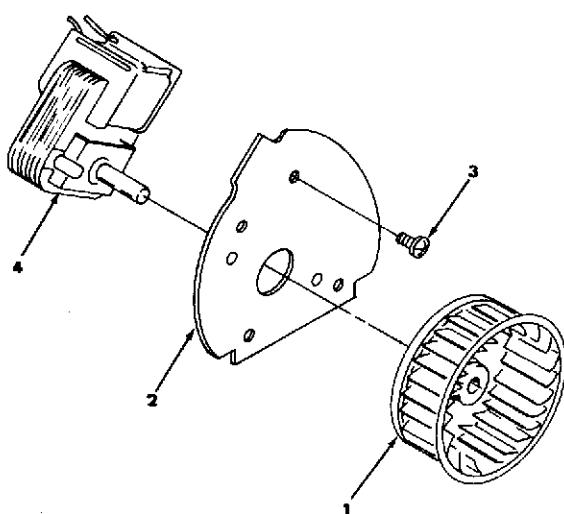
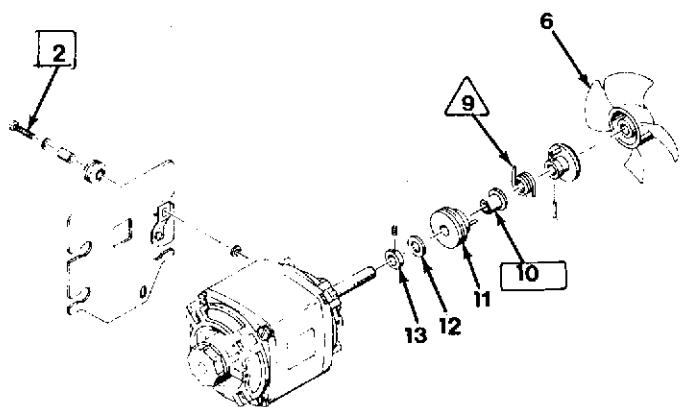

Figure 3-17. MOTOR AND PLATE ASSEMBLY
Figure 3-18. DRIVE UNIT ASSEMBLY
5. Motor and Plate Assembly (Fig.3-17)
- Apply Glyptal 7526 to threads and heads of screws (3).
- With motor shaft play taken-up toward motor, the distance between the wheel (1) and plate (2) must be within .080 to .100. The wheel must also clear screw heads while rotating.
- Lubricate interface of clutch (9) and drum assembly (7) with Teresstic N-75 oil.
- Assemble washer (12) as required, to provide .003 to .008 end play between pulley (8), washer (11) and ring (10).
6. Drive Unit Assembly (Fig.3-18)
- Lubricate inside diameter of spring (9) with Vischem No. 352 grease.
- Lubricate inside diameter and outside face of bearing (10) with FS-1290 grease.
- Collar (13) to be adjusted to allow pulley assembly (11) to rotate freely with .004 to .010 end play.
- Apply Glyptal 7526 to threads of screws (2).
- Push fan (6) onto shaft (pressure fit).